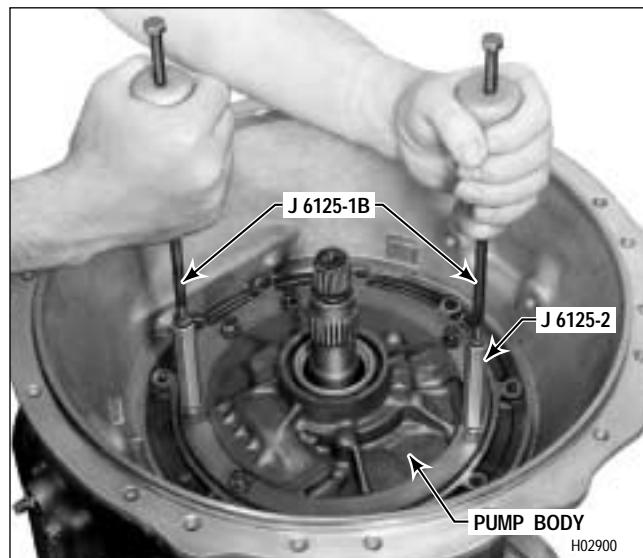

Figure 5-9. Removing Pump Assembly
(4) Remove two bolts and washers from the locations in the pump body as shown in Figure 5-9 or 5-10. Install two J 6125-B slide hammers into J 6125-2 adapters.
The two holes where the slide hammers are shown in place in Figures 5-9 and 5-10 are threaded for the J 6125-2 adapters.